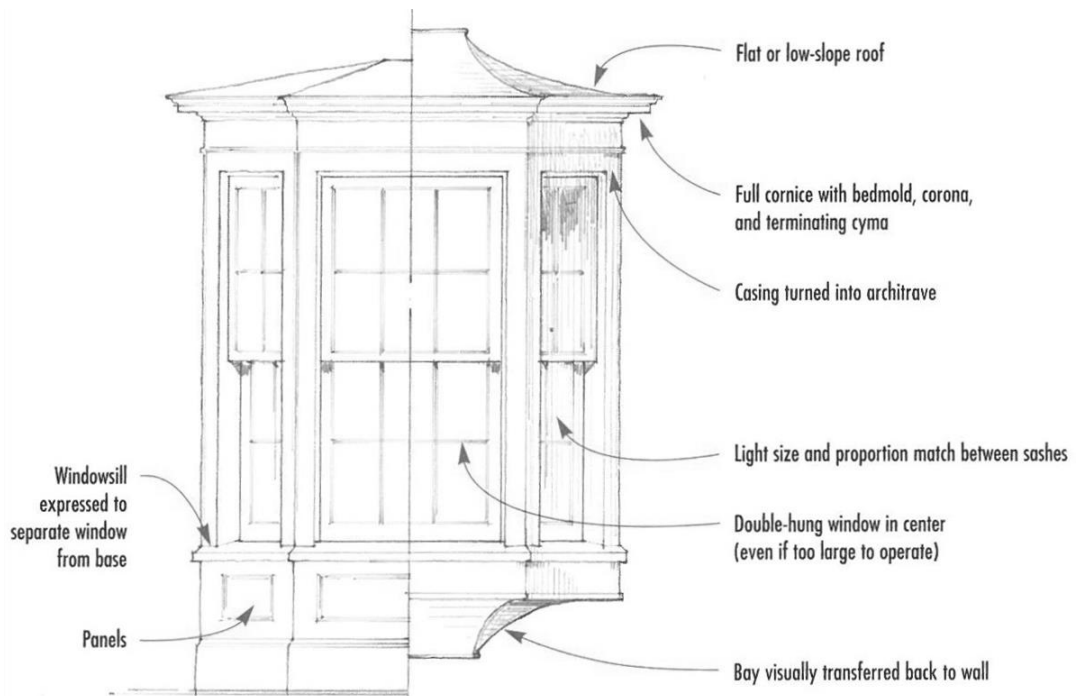
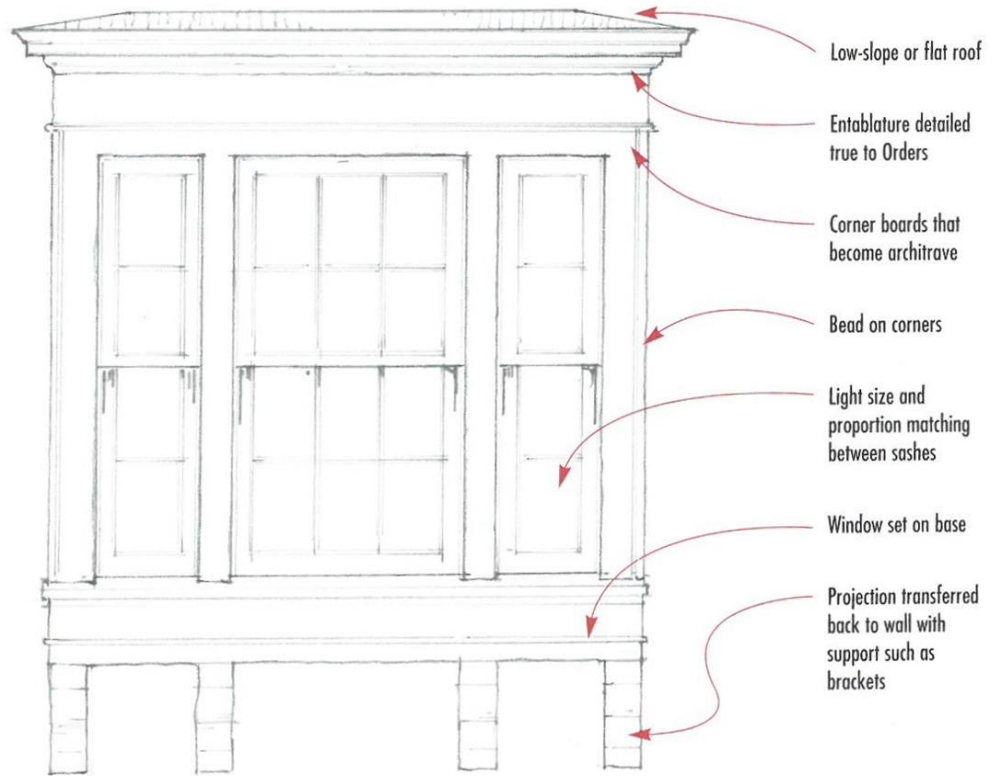

Figure 27: Bay and Oriol Window Design Elements. Source: Marianne Cusato, *Get Your House Right* (Canada: Sterling, 2007), 123, fig. 5.57.
Figure 28: Box Bays Design Elements. Marianne Cusato, *Get Your House Right* (Canada: Sterling, 2007), 125, fig. 5.60.
- h. Bay windows, including bow (Figure 27) and box (Figure 28) windows, shall:
1. Provide habitable interior space and include at least three (3) windows.
2. Not project more than three (3) feet from the building façade, nor exceed 16 feet in width.